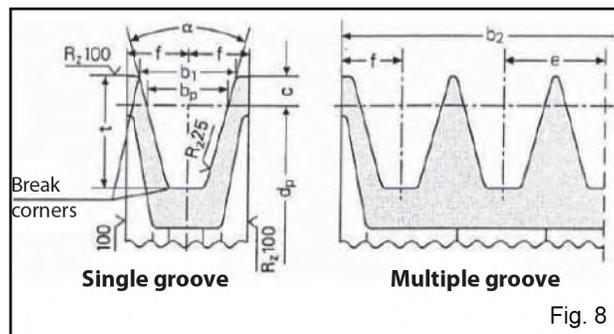

Fig. 8
A) Use pulleys with V-belts with the size of the groove required/recommended by the manufacture of belt used. In the absence of directions, follow fig. 8 and the table in fig. 9.